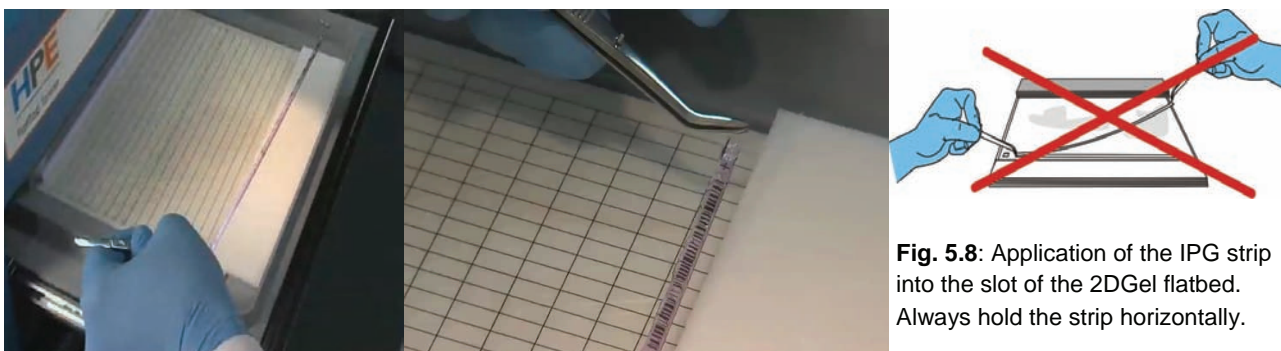

Fig. 5.8: Application of the IPG strip into the slot of the 2DGel flatbed. Always hold the strip horizontally.
11. Place the IPG strip gel-side down anodal side to the right, into the slot of the Flatbed Gel (fig. 5.8). Start in the middle to prevent accumulation of buffer towards one side. Push it carefully towards the anode edge of the slot. Slide along the backing of the strip with the forceps to ensure good contact to the bottom of the slot.